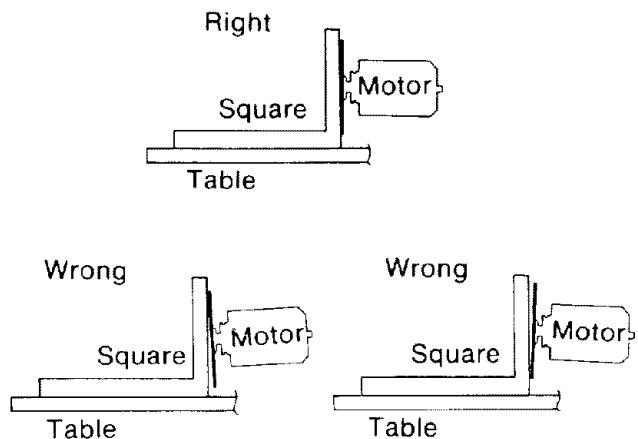

Fig. 81
7. If the square is flush with the *blade* after each rotation, no change is needed. (Figure 81) Go to the next section, or
If there is a gap between the square and the *blade* after any rotation (Figure 81), go to step 8. Note: Saw blades are manufactured to different specifications. Therefore a small gap is permissible on some brands.